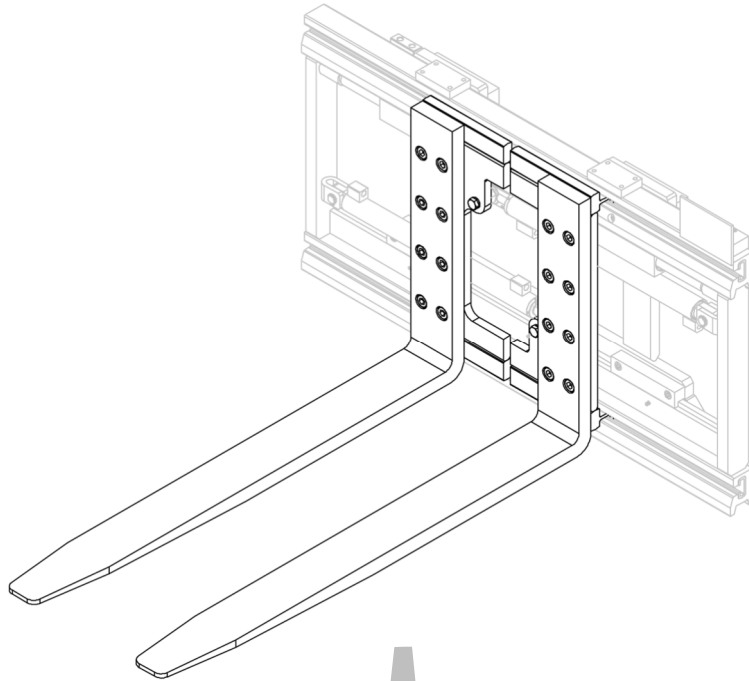
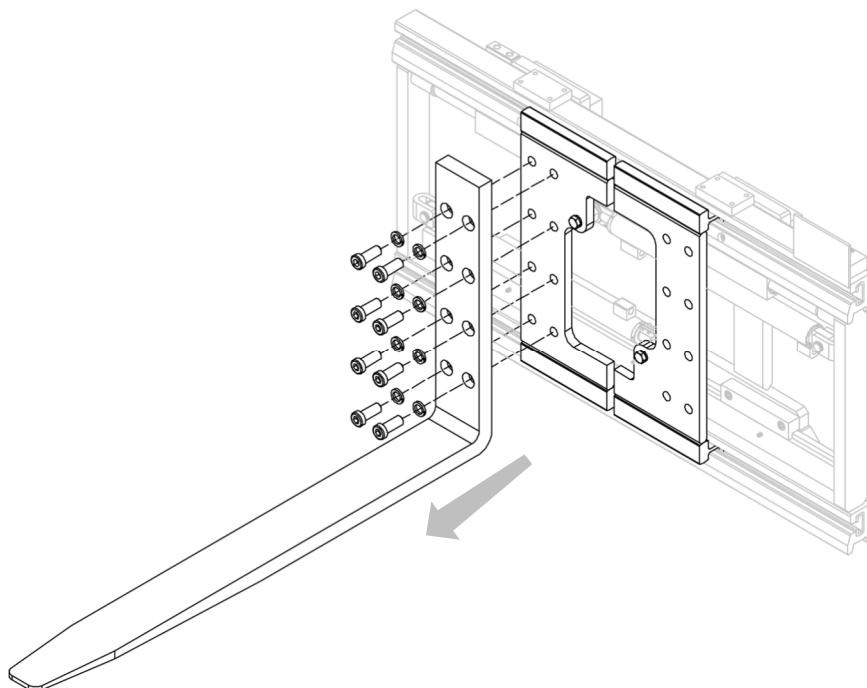

Figure 23
Figure 24
2. Remove the forks from the plates, after removing the relative screws and washers that hold them (see *Figure 23* and *Figure 24*).